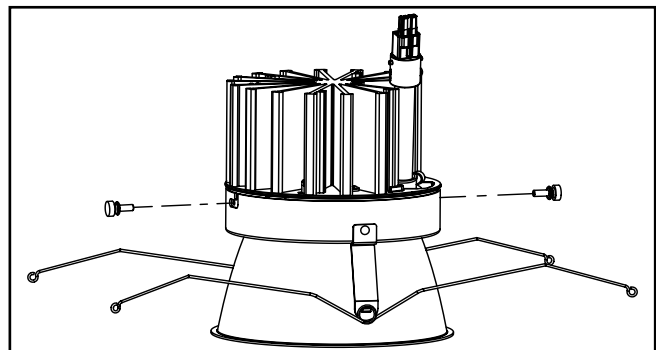

Figure 6.
- Using provided thumb screws, securely attach lower trim to LED Engine. Align Power Plug from LED Engine with cylinder housing connector and push together (Figure 6.).